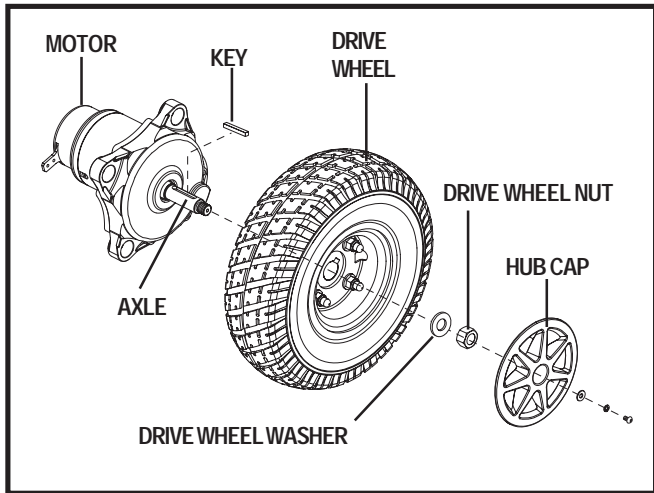

Figure 22. Drive Wheel Removal
5. Remove the hub cap. See figure 22.
6. Remove the drive wheel nut and washer from the axle. See figure 22.